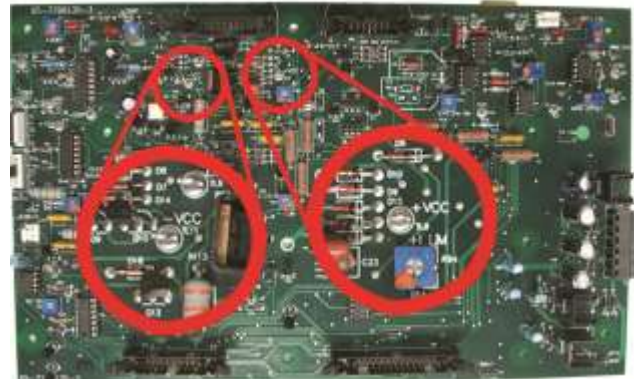

Figure 6.1- +Vcc and -Vcc Test Point Locations
1. To perform a Visual Inspection, first turn the Breaker/Switch to the Off (O) position.
3. Wait three to five minutes for the Power Supply capacitors to discharge. You can verify the capacitor discharge by connecting a voltmeter across +Vcc and -Vcc test points on the main board (see Figure 6.1). Verify a reading of less than 50 volts before proceeding.